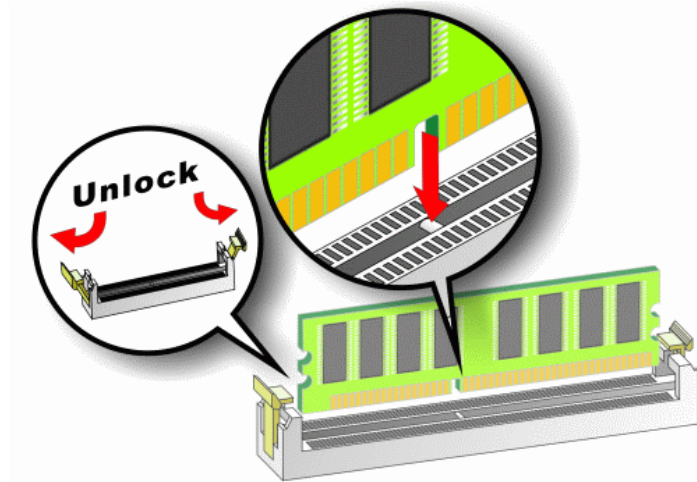

Figure 5-8: Installing a DIMM
To install a DIMM into a DIMM socket, please follow the steps below and refer to **Figure 5-8**.
- Step 1: Open the DIMM socket handles.** The DIMM socket has two handles that secure the DIMM into the socket. Before the DIMM can be inserted into the socket, the handles must be opened. See **Figure 5-8**.
- Step 2: Align the DIMM with the socket.** The DIMM must be oriented in such a way that the notch in the middle of the DIMM must be aligned with the plastic bridge in the socket. See **Figure 5-8**.
- Step 3: Insert the DIMM.** Once properly aligned, the DIMM can be inserted into the socket. As the DIMM is inserted, the white handles on the side of the socket will close automatically and secure the DIMM to the socket. See **Figure 5-8**.